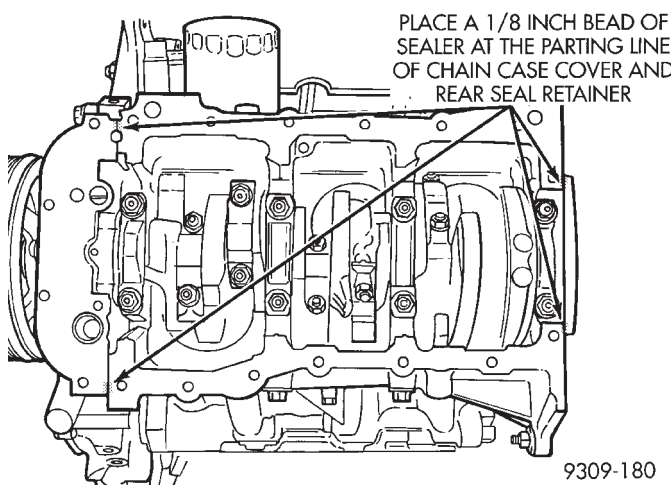

Fig. 3 Oil Pan Sealing
- (1) Apply a 1/8 inch bead of Mopar Silicone Rubber Adhesive Sealant or equivalent, at the parting line of the oil pump body and the rear seal retainer (Fig. 3).